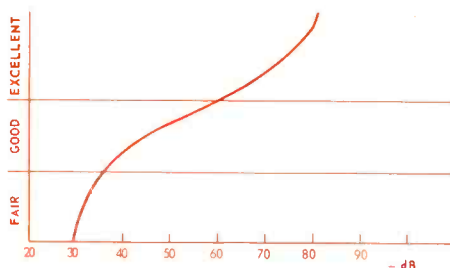

Fig. 16—IHF selectivity, alternate channel.
SPURIOUS RESPONSE REJECTION (T). There may be other forms of signal interference when tuning across the FM dial besides i.f. and image interference. False appearance of signals at improper frequencies brought about by complex mathematical relationships between the intermediate frequency or its harmonics and sub-harmonics are often the cause of such additional spurious responses. In a well-designed tuner, such false responses will be very minimal or hardly detectable. Nevertheless, many manufacturers publish this specification in dB. The higher the number quoted, the better the tuner in this regard. Typical spurious-response-rejection figures for modern tuner sections are shown in Fig. 16.